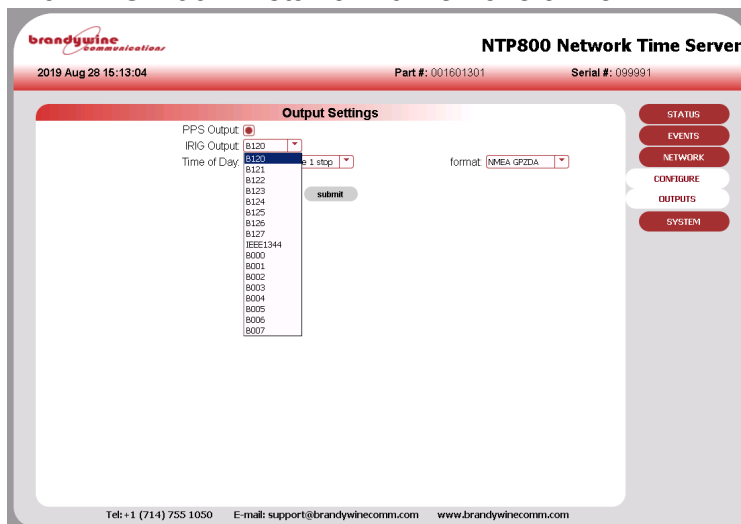

Figure 7 Configuring IRIG B output format
The NTP800 generates IRIG B serial time code in either carrier modulated (AC) or Unmodulated (DCLS) format. The code format is selected on the Output Setting webpage (Figure 7) and output on connector J16